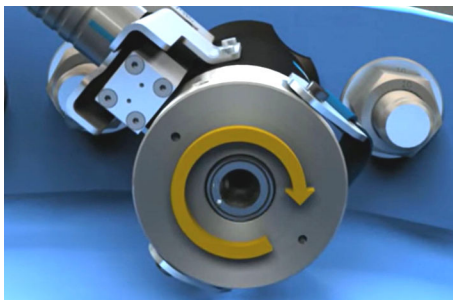

Fig. 25: Screwing on
3. →  Use a suitable tool to screw the tension bolt onto the bolt you are preloading (Fig. 25). Thread coverage must equal at least the bolt's diameter.